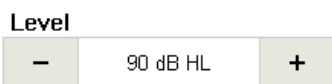

Figure 137
**Level:** Defines the default intensity of the stimulus upon entering the screen (Figure 137). You can adjust the level in 5 dB steps.